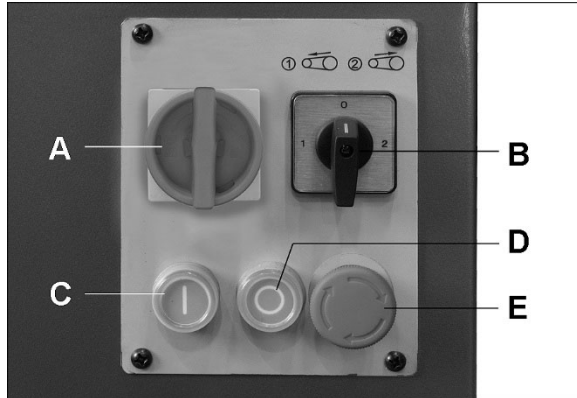

Figure 8-1
6. Turn on machine (see *sect. 8.1* for controls). If abrasive belt moves wrong direction from that shown on operating panel (Figure 8-1), disconnect from power and switch any two of the 3 wires to the motor (not the green ground wire).
Refer to Figure 8-1.